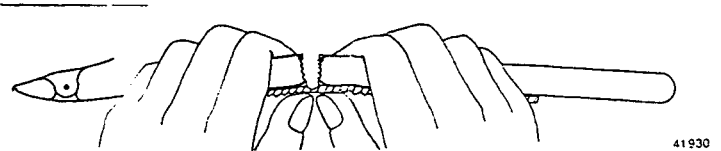

Fig. 2.1
- 4.2 To open the diffusion tube, push it into the holder in the direction opposite to the arrow until the bead on the tube rests against the hinge, whereby the red dot on the tube must be visible at the open end of the holder. Hold the tube and holder with the open end pointing away from the body and break off the tube against the hinge (Fig. 2.1). Carefully remove the tube parts from the holder.